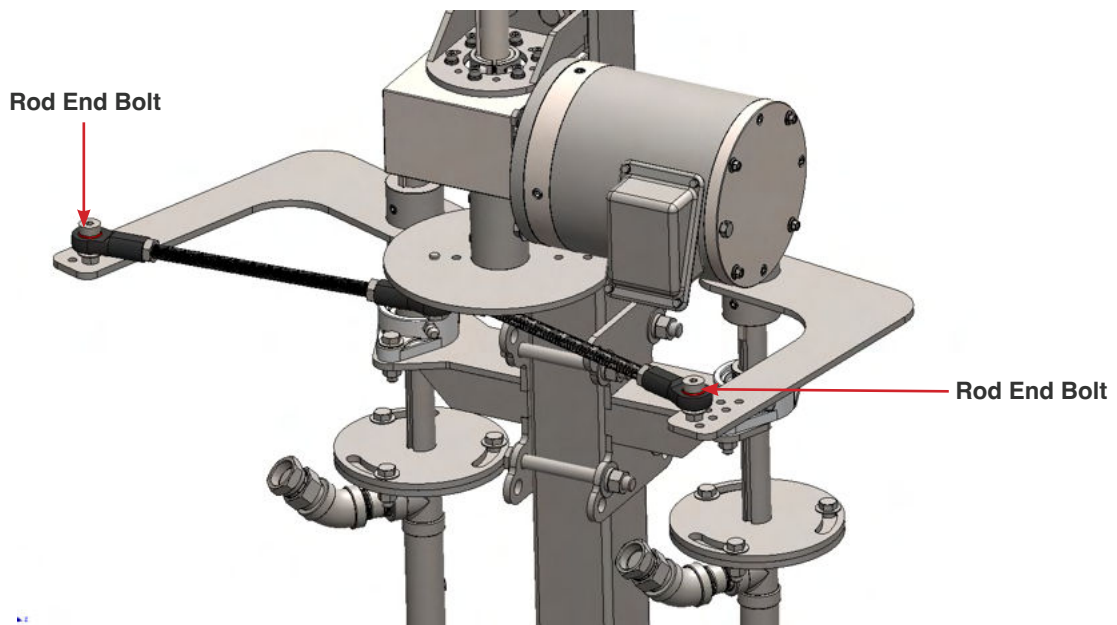

Fig. 7.1.4 - 1 - Replacing rod ends
3. Remove the bolt (Fig. 7.1.4 - 1).